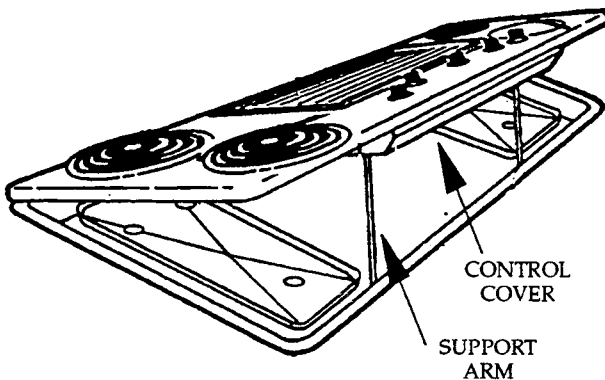

FIGURE 4-6
2. Raise the front of the maintop and swing the bracket arm forward so that it rests against the front of the rough-in box (see Figure 4-6).
3. Remove the two phillips screws from the control cover and remove the cover (see Figure 4-6 for the cover location).